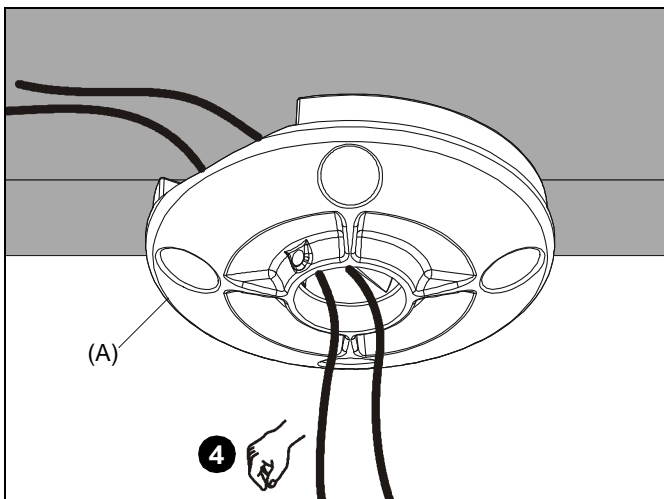

Figure 3
4. Route cables through channel in ceiling plate (A) (See Figure 3).